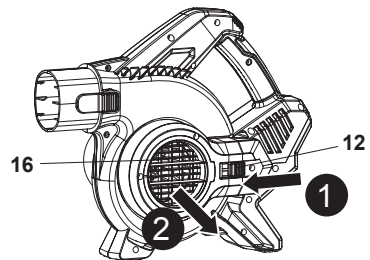

Fig. 3
3. Push forward the snap-in button (12) and hold it in place, then pull off the impeller wheel cover (16). Store impeller wheel cover in a safe place to avoid loss (Fig. 3).